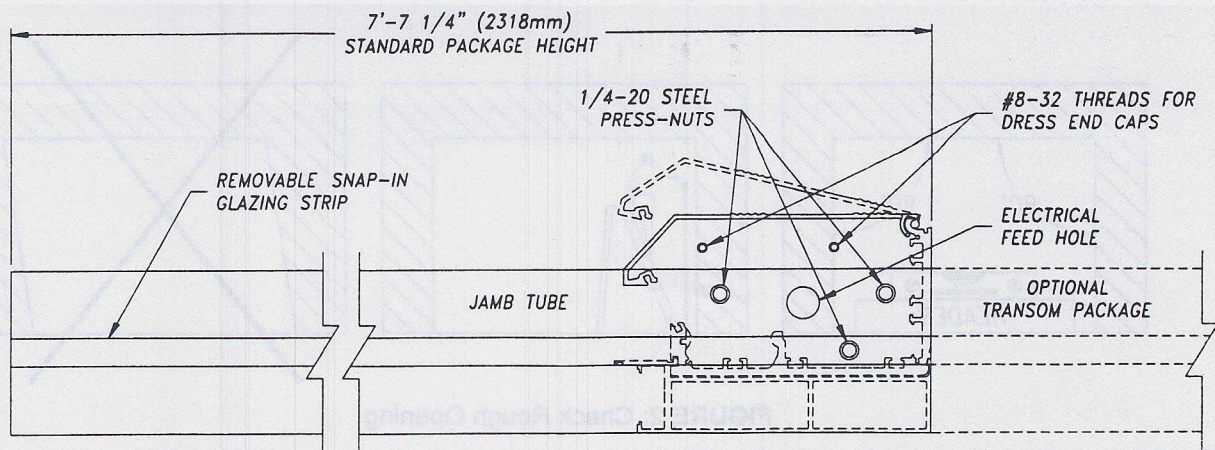

FIGURE 4: Jamb Tube Attachment to Header
3. Align the jamb tubes with the ends of the header, making sure that the bolt holes and electrical feed hole line up. Use three 1/4-20 X 1" long bolts on each side to secure the header end cap to each jamb tube. Then install one dress end cap on each side using the #8-32 screws (Figure 4).